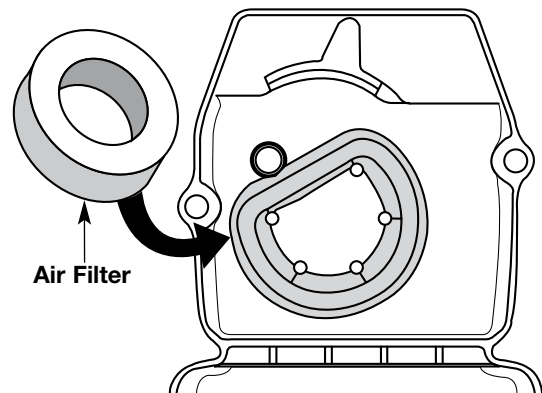

Figure 15
4. Remove the air filter from behind the air filter/muffler cover. See Figure 15.
7. Replace the air filter inside the air filter/muffler cover. See Figure 15.